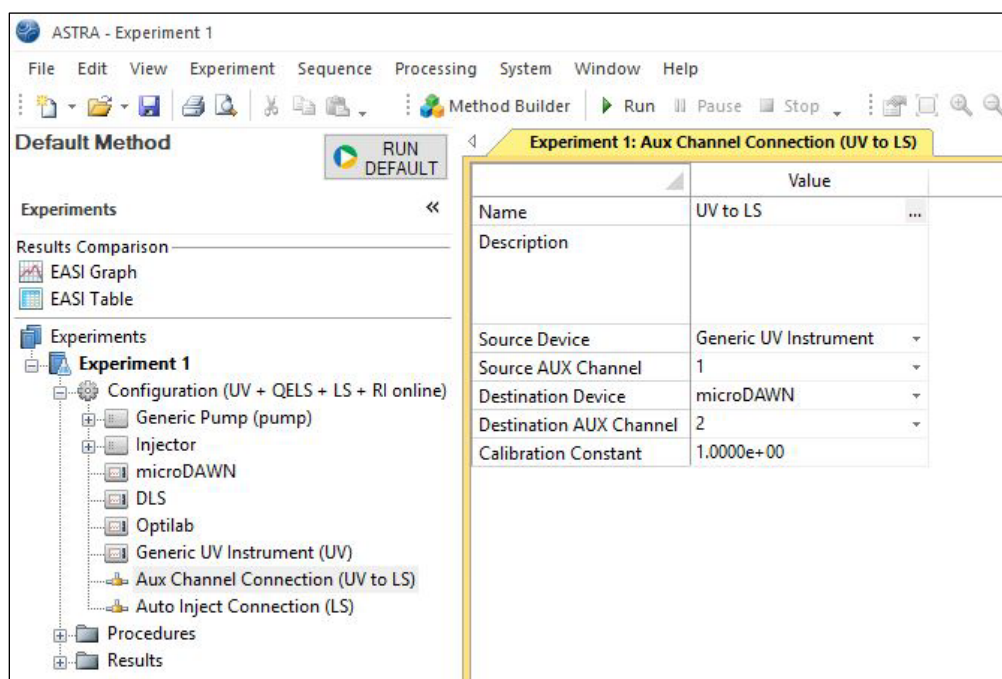

Figure 8: A screenshot of the ASTRA software with the **Configuration** node expanded and **Aux Channel Connection (UV to LS)** selected.
4. Double-click on **Aux Channel Connection (UV to LS)** to see the settings for this configuration in the right-hand pane (see Figure 8). One **Aux Channel Connection** has to be defined in the experiment configuration for every physical analog input connection that has been established to enable ASTRA software to display and use the analog signal. In case multiple auxiliary input channels have been connected, multiple **Aux Channel Connections (UV to LS)** need to be defined. (Calculating the concentration of a sample from an auxiliary input is only possible for the **Active Channel** defined in step 2 above.)